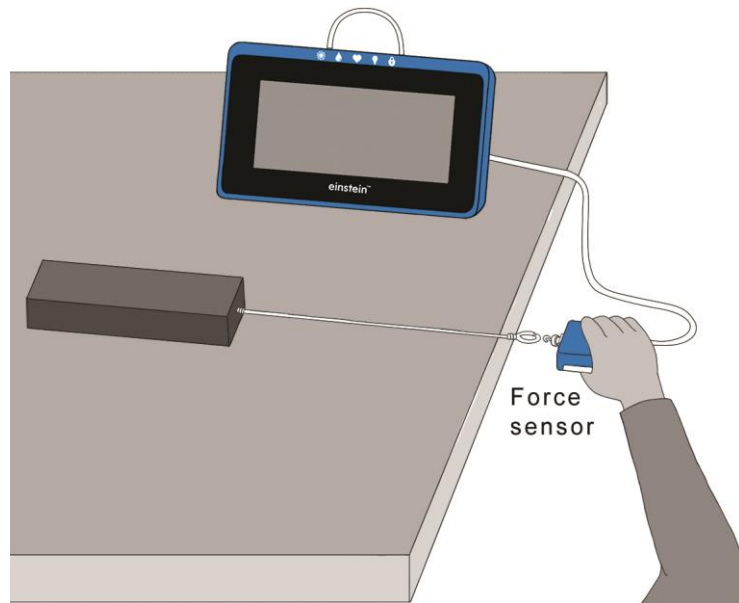

Figure 1
2. If there is significant friction between the cart and the plane, the cart will move up and down the plane with different accelerations. Measure  $\alpha$  the angle of inclination of the plane (see Figure 1) and the acceleration when the cart is moving downwards in order to calculate the friction coefficient between